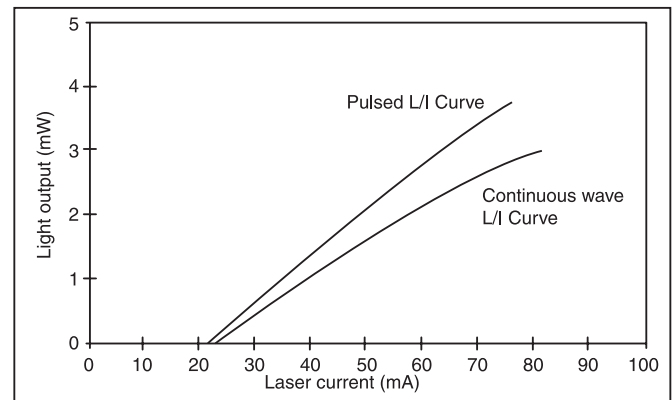

Figure 3. The pulsed L/I curve.
**Pulsed L/I Curve.** The L/I characteristics may also be acquired in a low-duty-cycle pulsed mode. The increase in threshold and decrease in slope efficiency observed in the continuous wave data, as compared to the pulsed data (Figure 3), stems from the rise in junction temperature. This rise, due to the thermal resistance of the device, is typically 40 to 80°C/W. Typically, pulse widths used in this type of measurement are 100 to 500 nanoseconds, with a duty cycle of less than one percent.